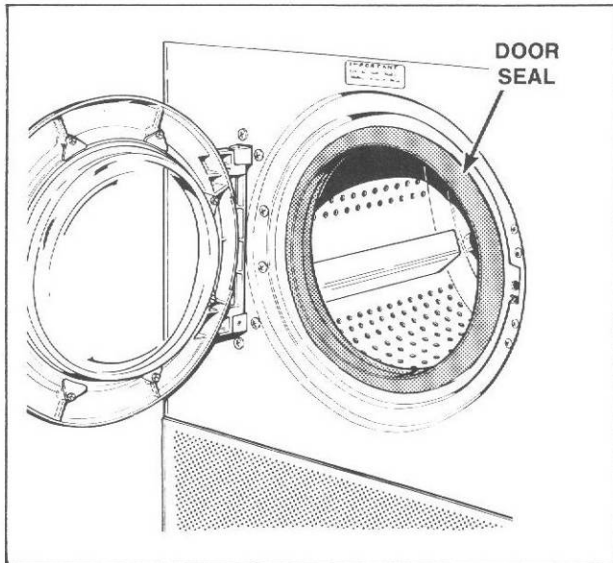

Figure 11
- Disengage door seal from front panel flange, *Figure 11*.